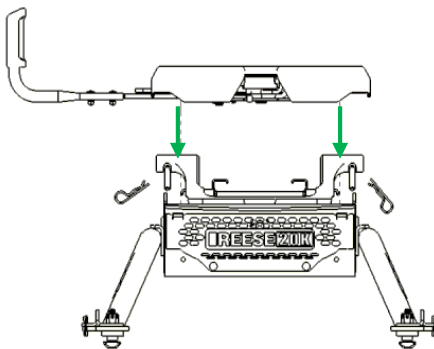

FIG. 4
1. Apply grease per page 3, figures 7 & 8. Place head unit on top of center section as shown in figure 4, making sure to avoid putting any body parts in pinch points